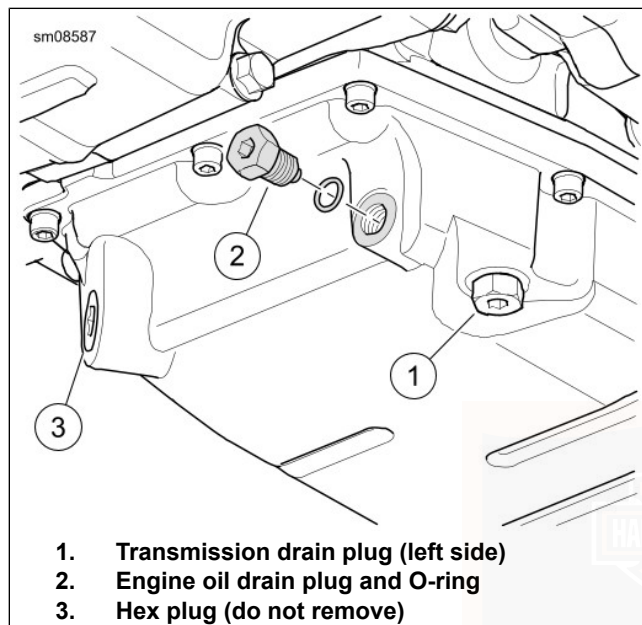

Figure 85. Oil Pan
3. See Figure 85. Remove the oil drain plug (2) and O-ring. Allow oil to drain completely.